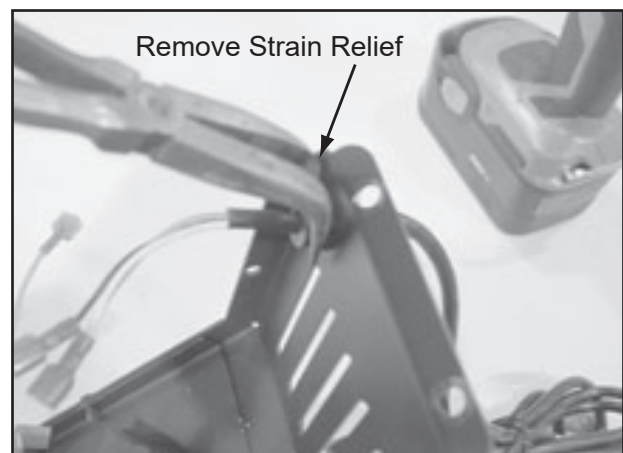

Figure 20.3
4. Remove the strain relief with pliers. This will free the power cord from the convection housing (**Figure 20.3**).